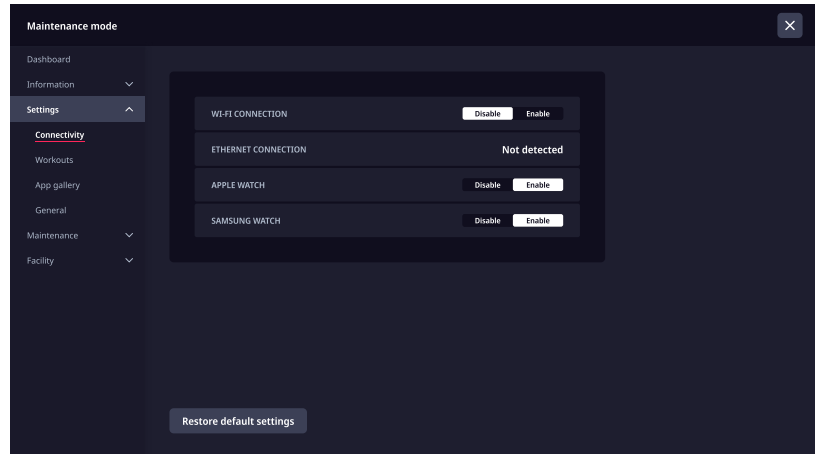

Fig. 58 Shown with Wi-Fi disabled and no Ethernet connection
3. Tap **Settings** to display the sub-menu (Fig. 58).